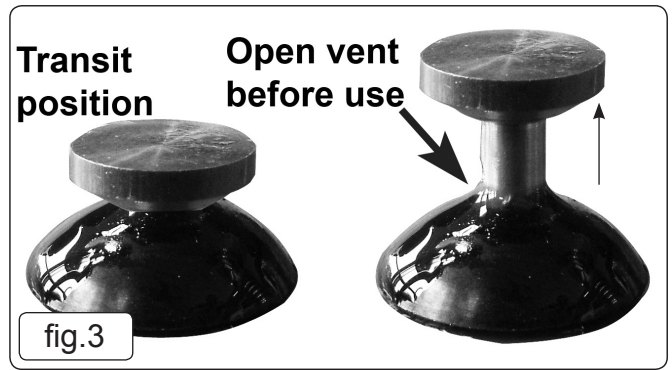

fig.3
- 6.1.1. This lift has a vent valve (figs.3 & 3A). This is closed for transit only. Before use the valve must be lifted or the pump will not function properly.